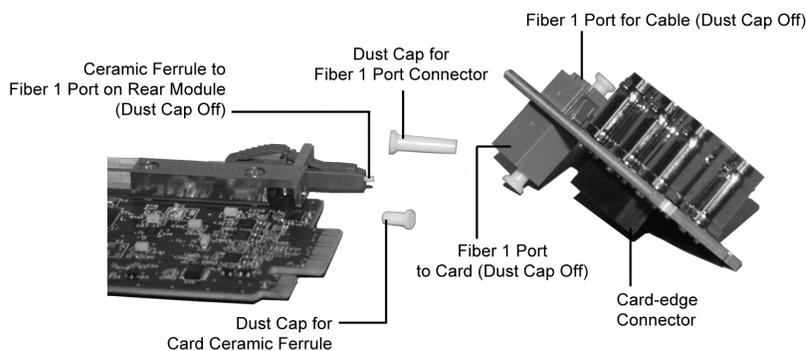

Figure 2.2 *Card Connectors with Dust Caps Removed*
3. Remove the dust cap from the Fiber ports on the Rear Module that faces the interior of the frame. Refer to **Figure 2.1** and **Figure 2.2** for dust cap locations.